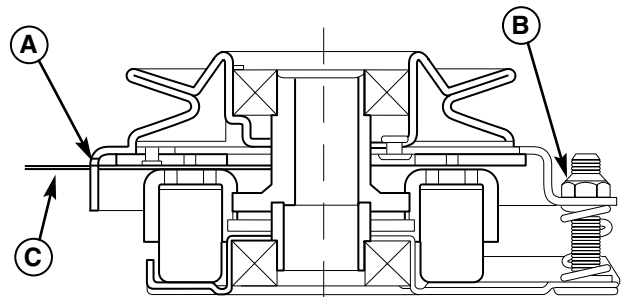

Figure 32. Adjust PTO Clutch
3. Insert a .012"-.015" (2,5-4mm) feeler gauge (C) through each window, positioning the gauge between the rotor face and the armature face as shown in Figure 32.